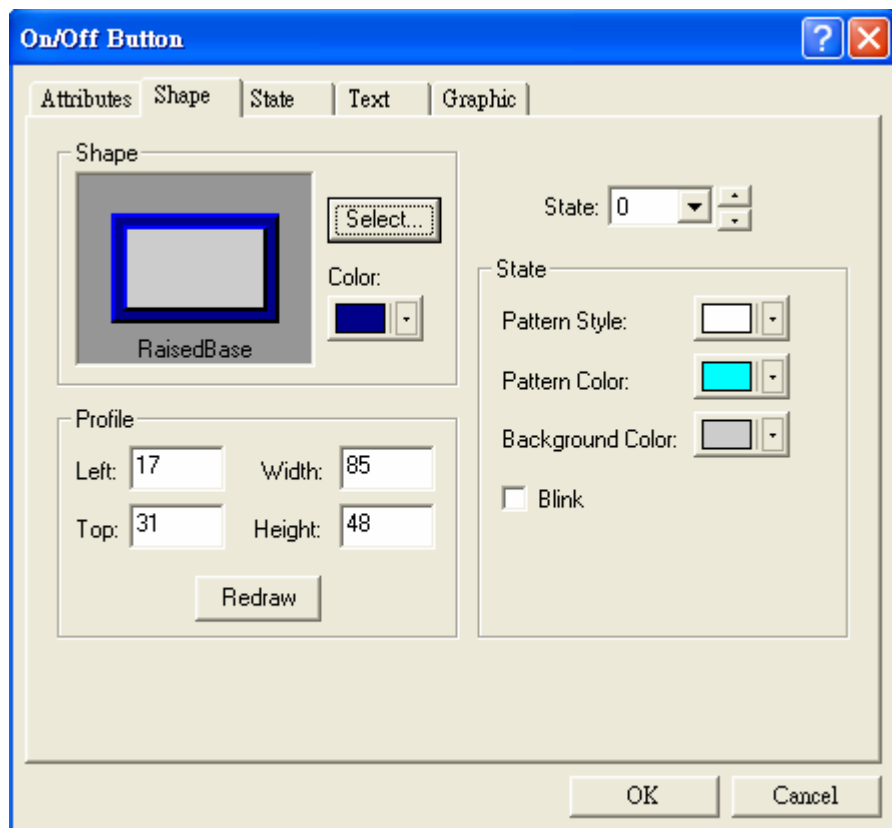

Figure 100. The [Shape] Tab
2. [Shape] Tab: Specify the shape style of a selected object as Figure 100.